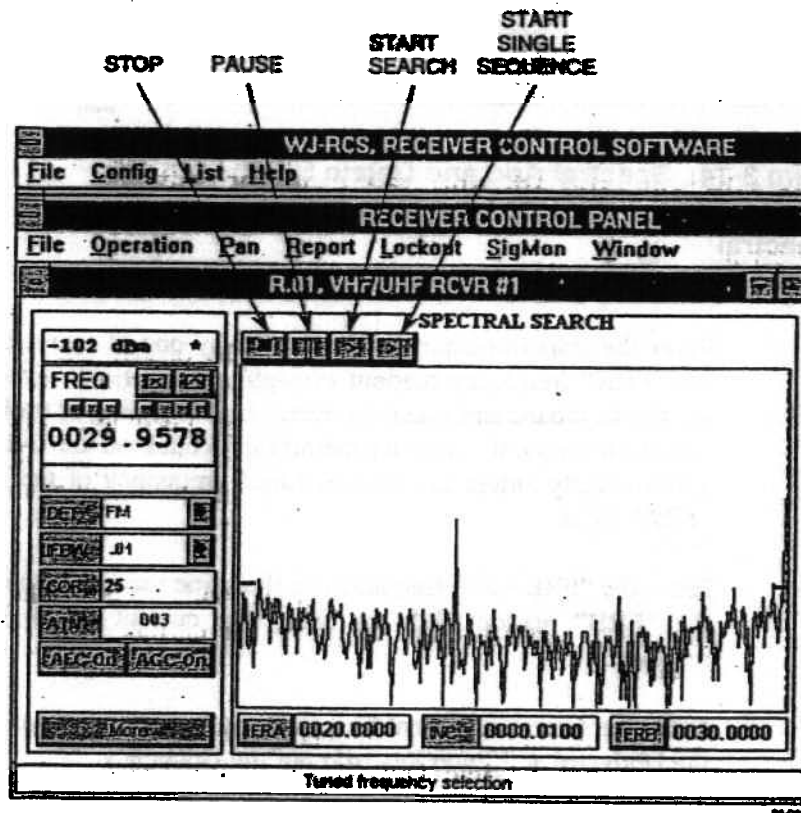
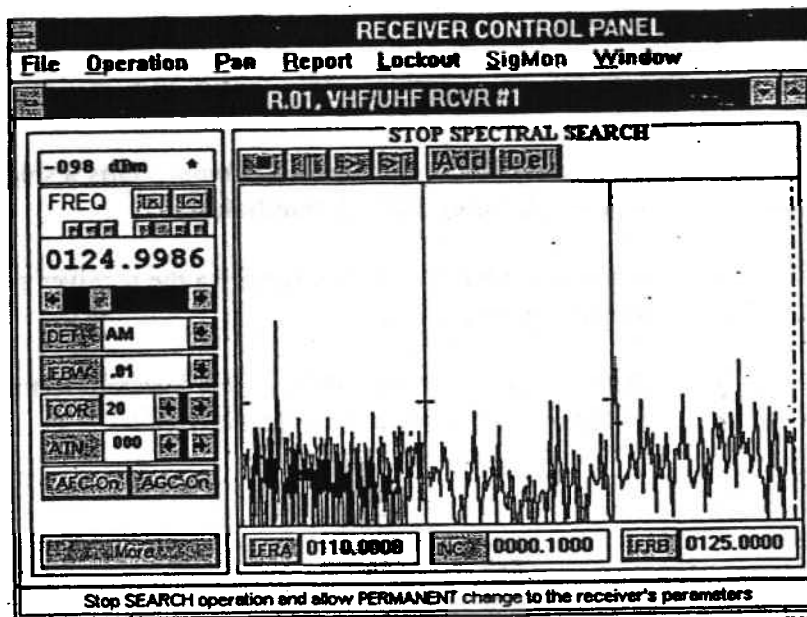
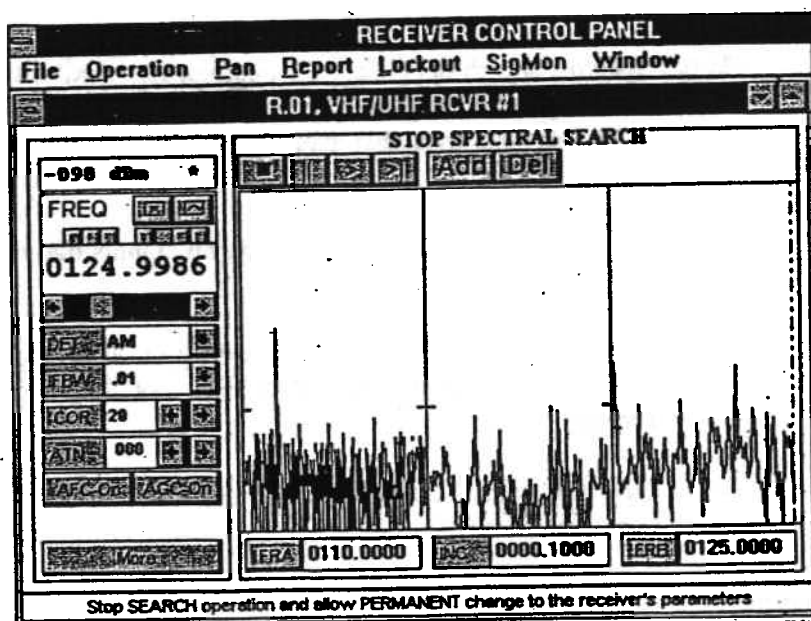

Figure 3-13. Spectral Mode Sweep Control Buttons
Figure 3-14. Spectral Add and Delete Sector Buttons
Figure 3-15. Spectral Operation With Three Sweep Sectors
Spectral Search operation permits and excutes up to ten independently programmed sweep sectors. See Figure 3-13 and 3-14. To add a sweep sector, use the "Stop" control button to stop the search operation. Click on the "Add" button to open another sweep sector. The operator can then change the new sector to the desired values. After completing the set-up of the sweep values, click on "Start Search" button to activate the search. During the Spectral Search operation, RF Pan displays of each sweep sector is available on screen. Use the "Pan" menu from the menu bar to mainpulate and tailor the RF presentation for optimum viewing. There are two groups of control buttons located directly above the RF Pan display that play a major role in the spectral search operation. These buttons, from left to right respectively, perform the following functions:
To start the sweep, click on the Start Search or the Single Sequence Search button. See Figure 3-13. The single Sequence Search button enables a single sweep of the sector while ignoring the receiver's COR value. The Start Search button starts the receiver's normal sweeping action.
To create additional sweep sectors, stop the sweeping operation by clicking on the Stop Search control button. See Figure 3-13. The current sweeping action stops and two control buttons appear above the Pan Display. See Figure 3-14.
Add additional sectors in the same manner. Each click on the "Add" button produces an additional sector on the Pan Display. Ten sectors are available per receiver. After creating the sectors, start the receiver sweeping action by clicking on the Start Search button (see Figure 3-13). Figure 3-15 depicts a receiver configured with three sweep sectors.
To delete sectors, stop the receiver sweep by clicking on the Stop Search button (see Figure 3-13). Place the cursor within the sector being deleted and click the mouse. Click on the "Del" button above the Pan Display. See Figure 3-14.
- Suspend the sweep by clicking on the desired signal. A dashed vertical line appears and the frequency readout on the receiver control panel displays the selected frequency. Click on the Lockout Control button to add the data. Restart the sweep by clicking the Start Search button above the Pan Display (see Figure 3-13).